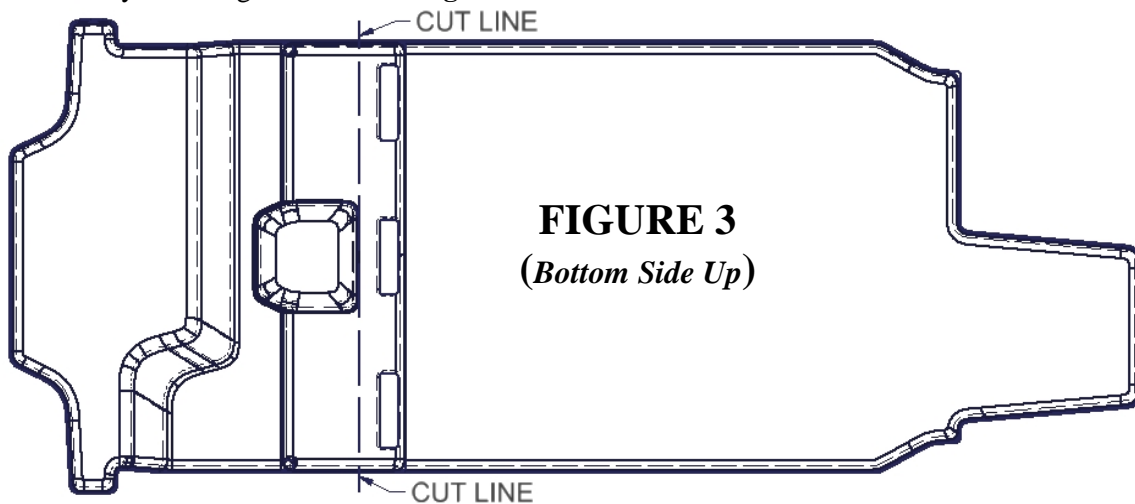

FIGURE 3
11. **OPTIONAL STEPS (Modifying Bottom Mat):** Use a straight edge to mark a line along the forward edge of the cavity and carefully cut along this line. See **Figure 3**